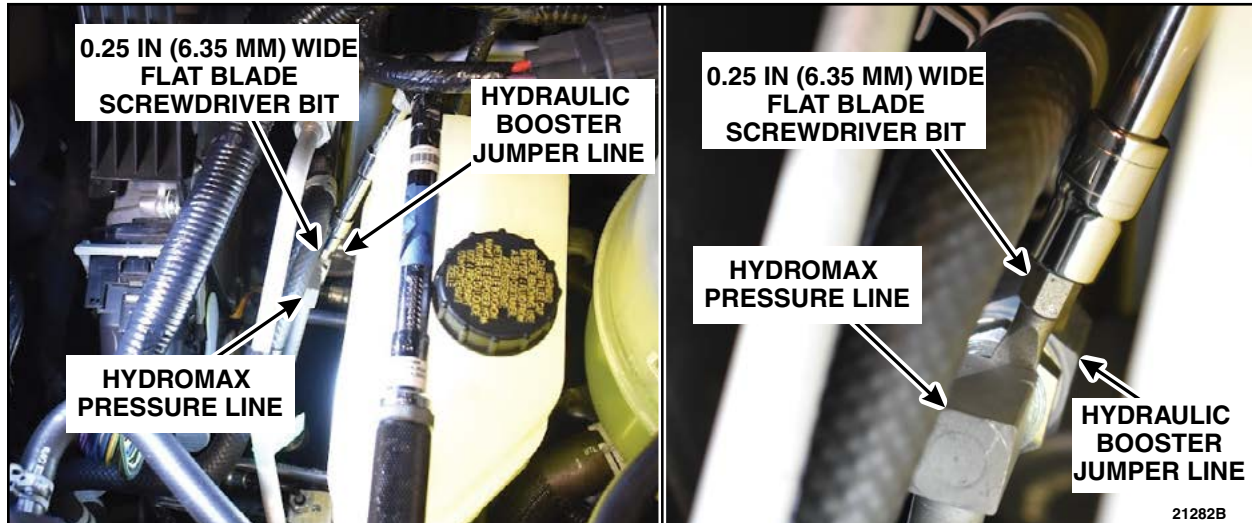

FIGURE 3
4. Using a 4 in (101.6 mm) extension and a 1/4 in (0.25 in / 6.35 mm) wide flat blade impact screw driver bit, insert the bit between the space in the Hydromax Pressure Line to hydraulic booster jumper line at a 90 degree angle to the connection and apply 12 Nm (8.85 lb-ft) of torque to attempt to separate the line connection. **NOTE: DO NOT EXCEED 12 Nm (8.85 lb-ft).** See Figure 3.